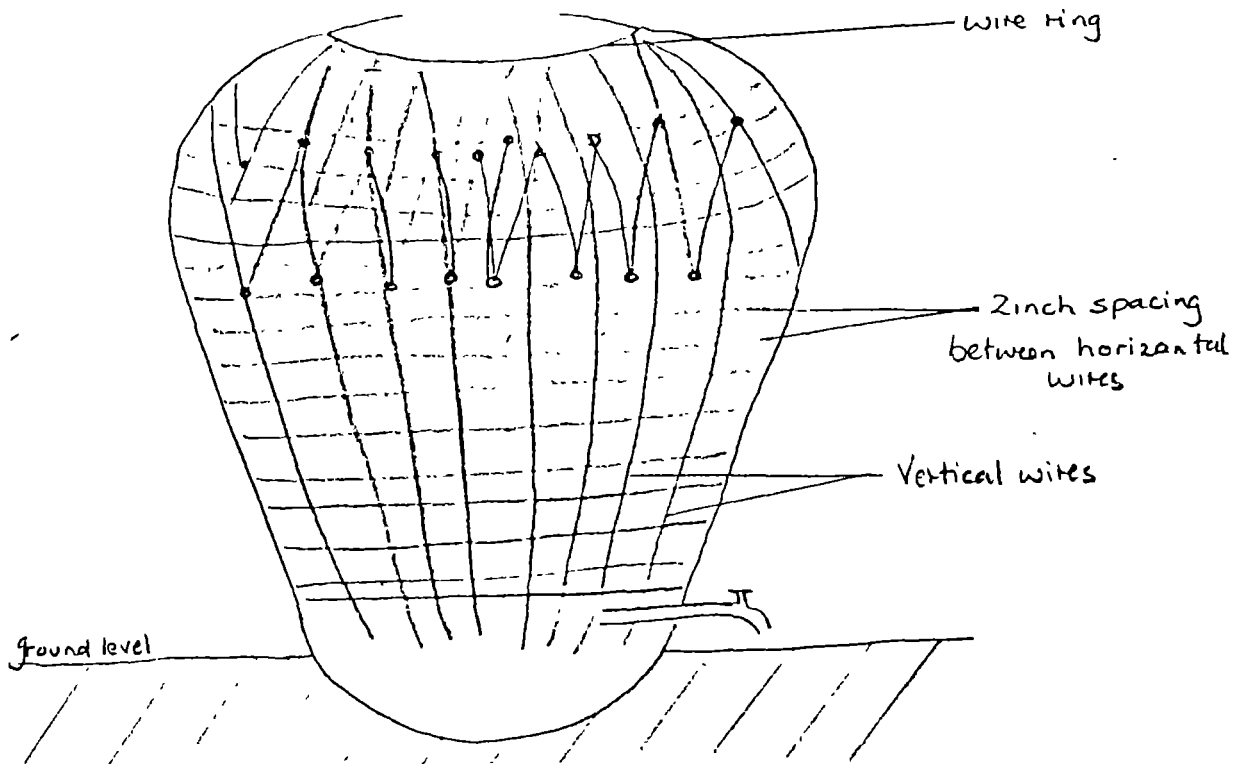

Fig. 4.
The Main Body Reinforcement: (Fig. 4.)
8. Wrap the long wire (in foundation) around the jar in a spiral fashion, maintaining spacing of 2 inches between each horizontal wire, continuing up until it meets the looped over section of the vertical wires. See Fig. 4.